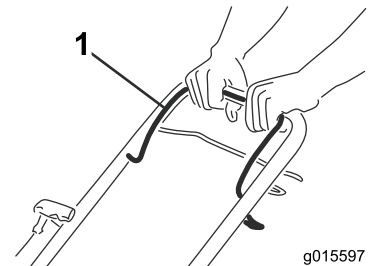

Figure 14
1. Hold the blade-control bar (Figure 14) against the handle.